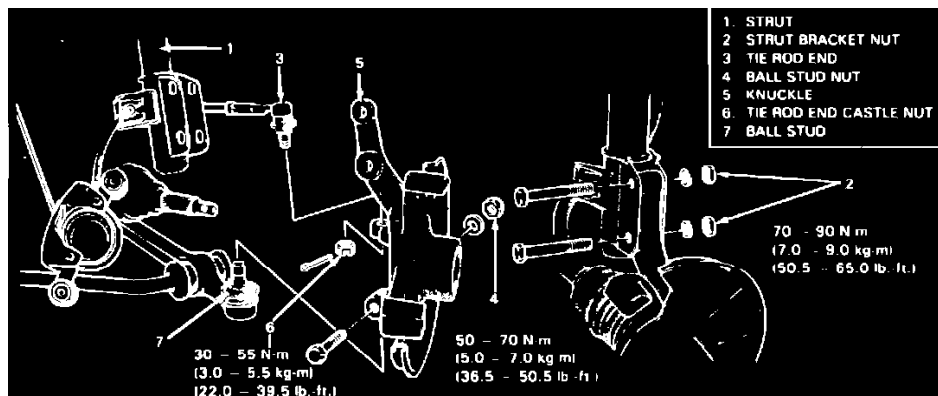

Fig. 6 Removing steering knuckle
6. Remove strut to knuckle bolts and then ball joint stud pinch bolt, **Fig. 6**.